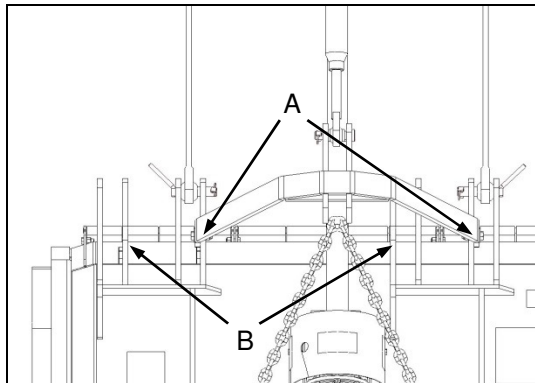

Fig. 4
- ✔ Remove the implement topmast (Fig. 4-A) and reinstall it on the alternative mounting brackets located to the left-hand side of the implement deck (Fig. 4-B).
- ✔ Verwyder die implement se topmas (Fig. 4-A) en herinstalleer dit op die alternatiewe monterhake aan die linkerkant van die implementdek (Fig. 4-B).